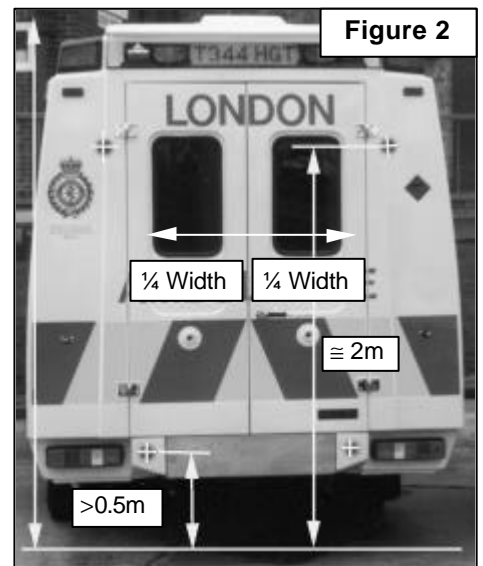

Figure 2
- Determine the centre of the vehicle using a measuring tape. Roughly mark with masking tape and mark centreline with a pencil. Then subdivide each half of the vehicle width again using the same technique such that the vehicle width is now divided into four. See Figure 2.